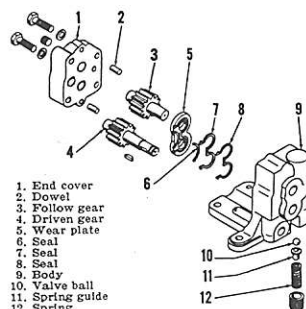

Fig. 301—Exploded view of 4 gpm service pump available through parts stock.
WARNER MOTIVE 4 gpm pump: Refer to Fig. 301. Wear plate (5) is pressure loaded and sealed to control gear end clearance. Body (9) is available from parts stock but end cover (1) is not. All other parts are available individually.